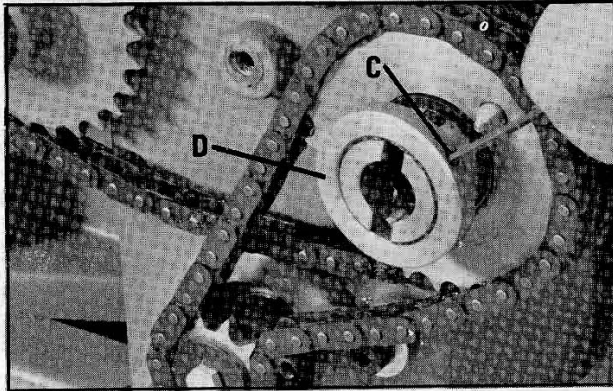

Fig. 18
2. Loosen set screw (C) Fig. 18, and remove collar (D).